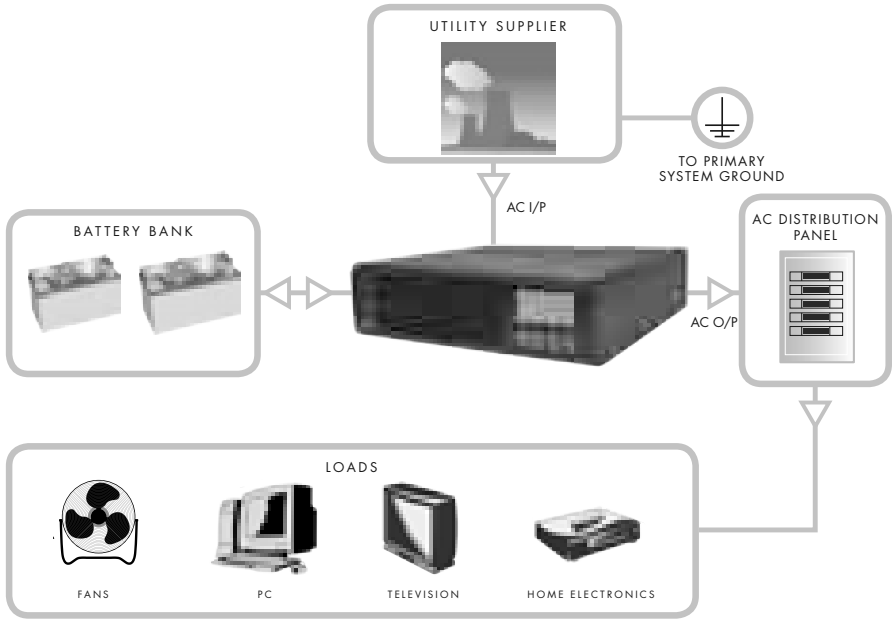

Figure 1-1 Utility Backup
- Utility Backup. see figure 1-1